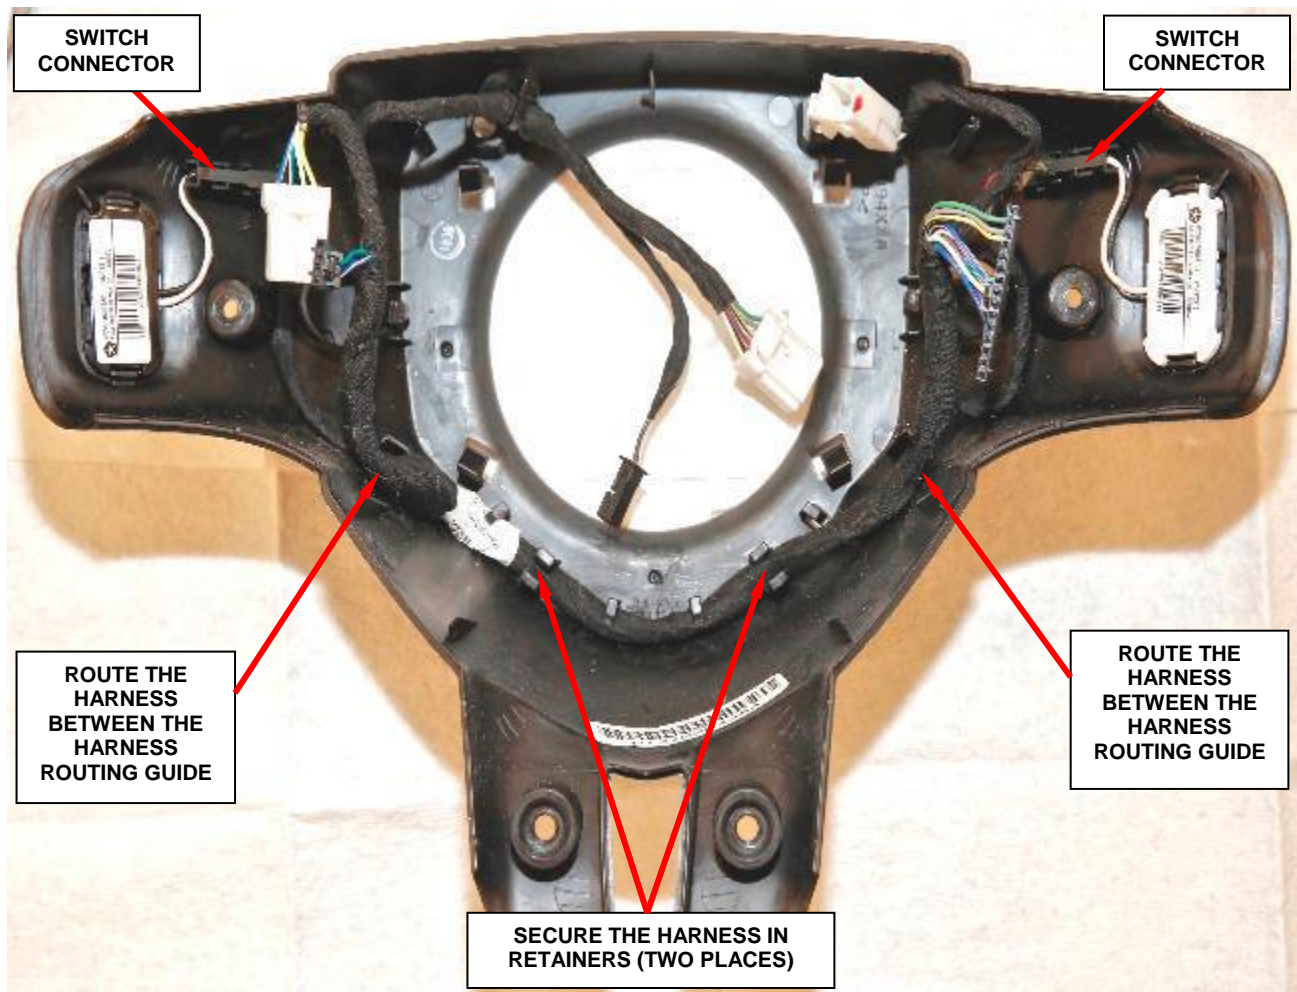

Figure 12 – Steering Wheel Wire Harness Routing
13. Install the **NEW** steering wheel wire harness on to the steering wheel back cover as shown (Figure 12).
14. Connect the two steering wheel control switch connectors (Figure 12).